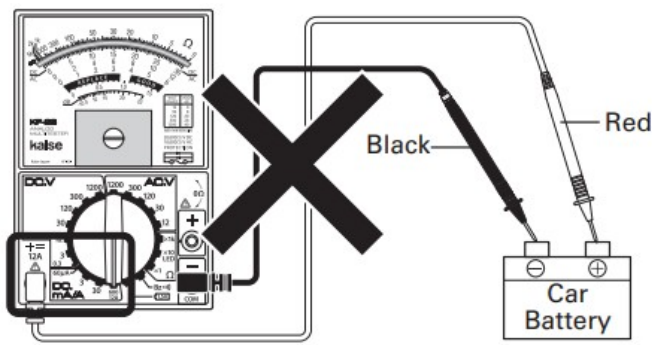
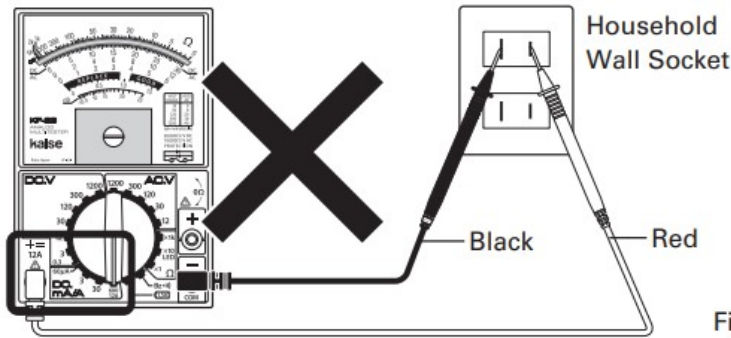

Fig. 3
Fig. 4
3. Do not measure any voltage in 12A DC range such as / terminals of car battery directly (fig. 3), or household wall socket (fig. 4).